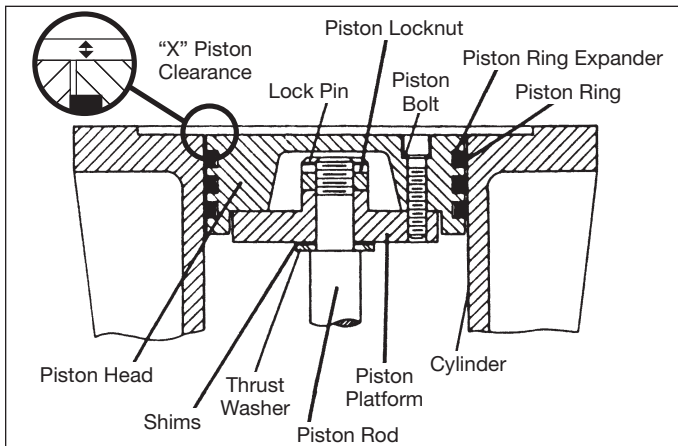

Figure 5.4A: Piston cross section model sizes 91 through 491
6. Before installing the new piston, measure the thickness of the existing shims. For Models 91, 291, and 491, the shims are placed between the thrust washer and piston platform. For model 691, the shims are placed between the platform and piston head (see figures 5.4A and 5.4B).